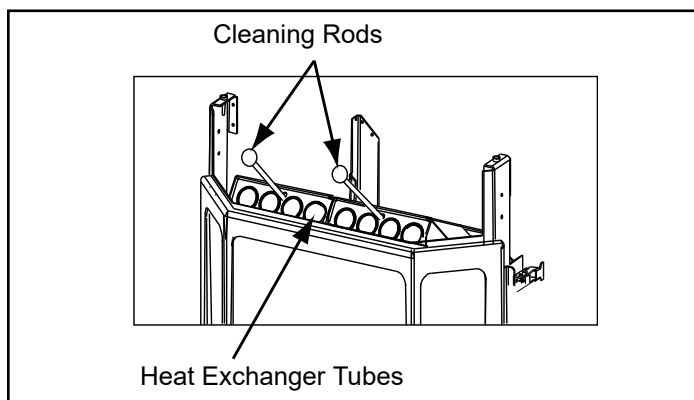

Figure 20.1
- To access the cleaning rods lift the hopper lid. Both bent handle pull rods are located close to the face of the appliance to the left and right side (**Figure 20.1**).